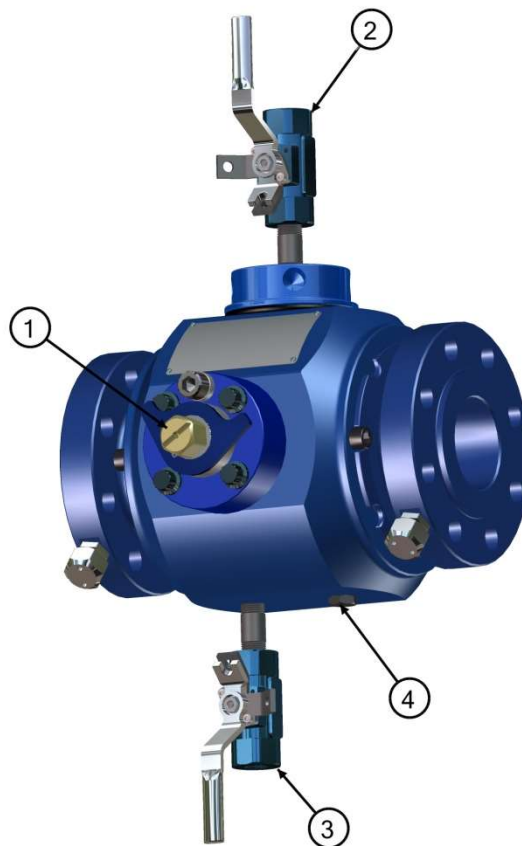

FIGURE 1
- 2) Check the stem (1) (**FIGURE 1**) position, confirm the valve is partially open and the vent valve (2) is totally open.